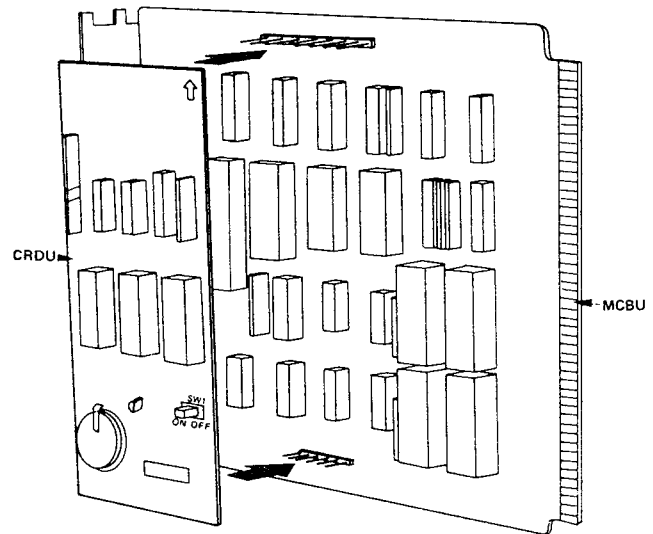

FIGURE 13—CRDU ON MCBU
07.02 Mount the CRDU(s) on the MCBU and MDSU (see Figures 13 and 14). Locate the SW1 battery strap on the CRDUs (Figure 1) and connect the memory back-up battery. The strap is shown in the OFF or disconnected position. To connect each battery, remove and reinstall the strapping plugs so that they bridge the center pin with the pin labeled ON. Ascertain the number and position(s) of CRDU PCBs required for your system per Table A—dedicated Automatic Dialing key codes reside at the lower end of the station register (that is: 10, 11, etc).